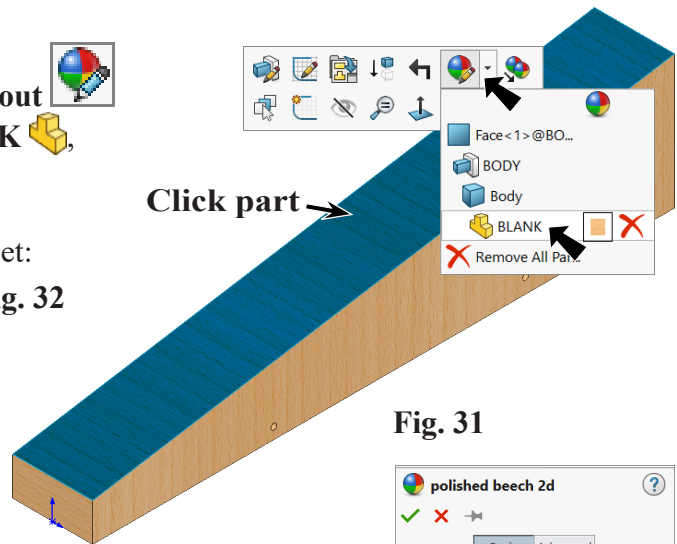

Fig. 31
Step 1. Click the part, click **Appearances Callout** on the context toolbar and click **BLANK**, **Fig. 31**.